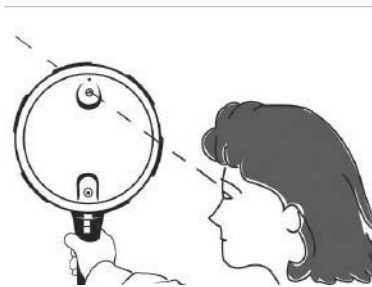

Figure 4
- Remove the **pressure regulator**, make sure that the steam outlet is not blocked. You should be able to look through the steam outlet if it is clear. Clean the anti-clogging nut and safety valve with warm water. See Figure 4.